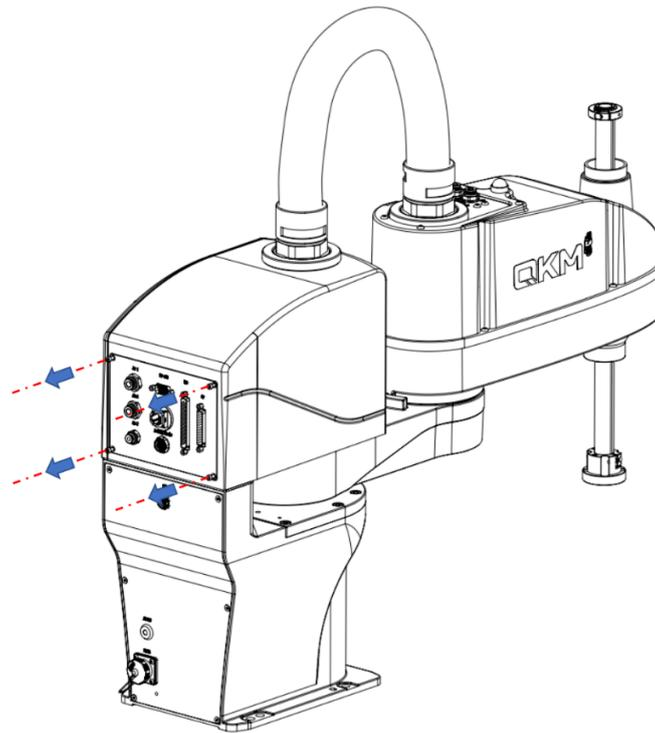

Figure 4-9 Removal of upper control cabinet interface panel
Step 1 Use 3 mm Allen wrench to remove the fastening screws from upper control cabinet interface panel of the robot, as shown in Figure 4-9.